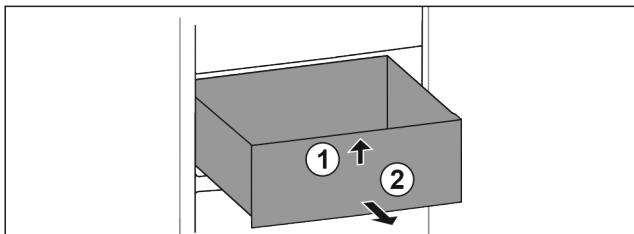

Fig. 96
- ▶ Lift up drawer at the front. Fig. 96 (1)
- ▶ Remove drawer to the front. Fig. 96 (2)